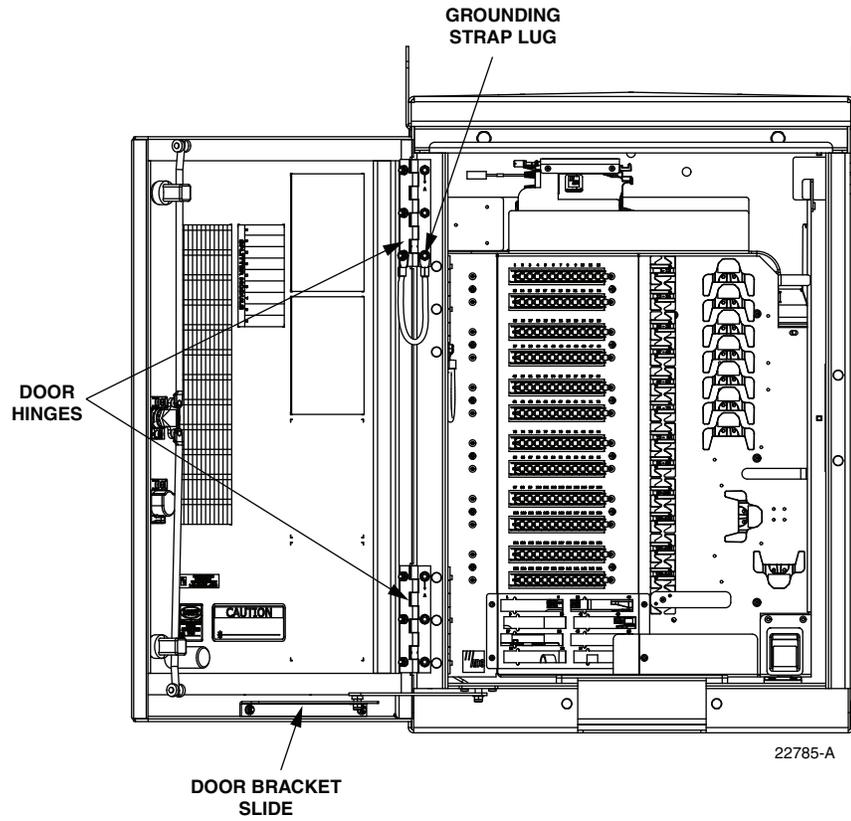

Figure 24. Door Replacement
1. Open both cabinet doors and lock them in the open position as shown in Figure 24.
► **Note:** Be sure to re-secure the grounding strap lug (see Figure 24) to the door when securing the hinges to the door.